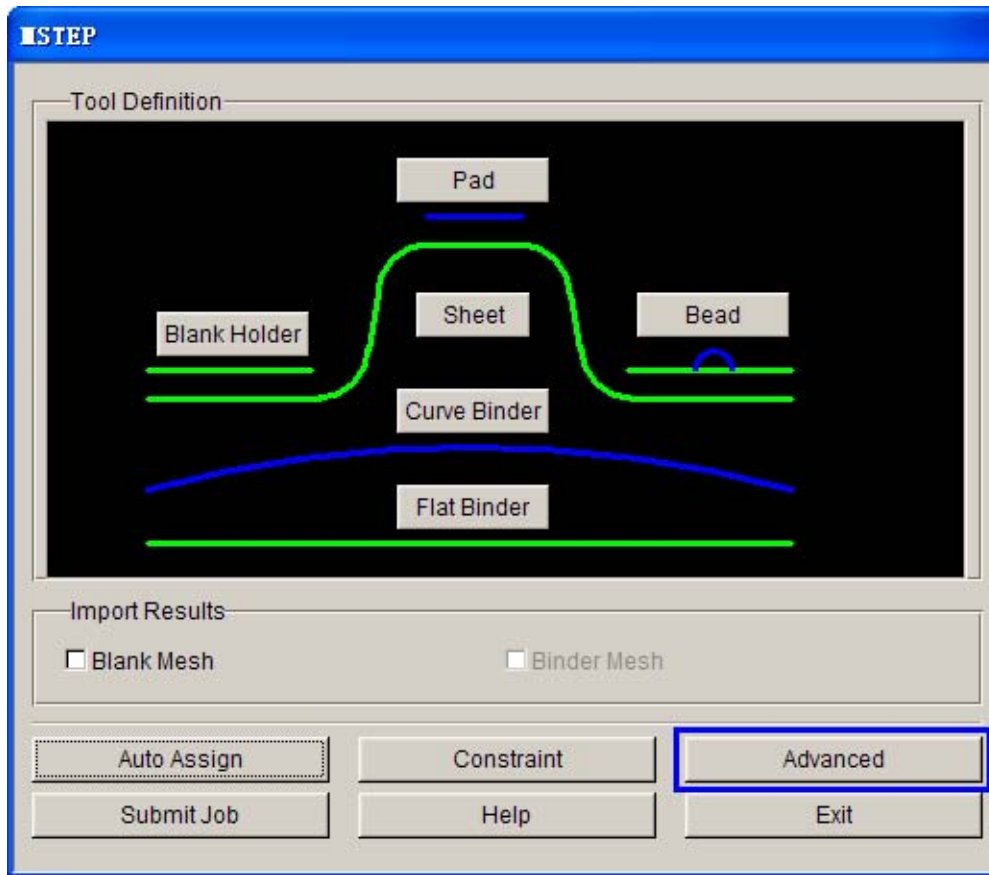
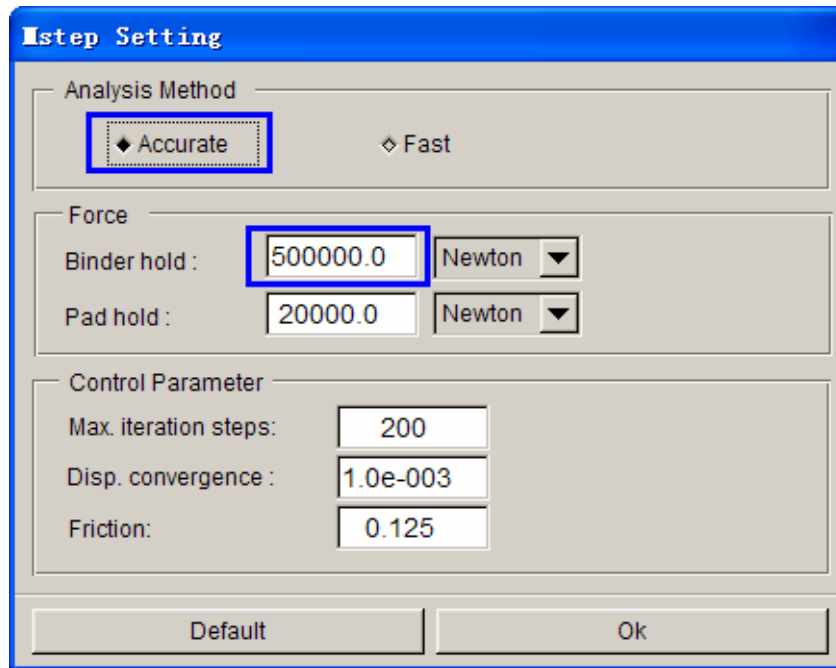

Figure 3.32: MSTEP GUI
Figure 3.33: MSTEP Setting dialog box
- 11) Select “SELECT PART” in the pop-up DEFINE TOOL dialogue window as shown figure 3.32, then pop up the Define Ring dialogue window, click “Add”. See figure 3.33.
- 1) Select “Advanced” in the MSTEP dialogue window to pop up the MSTEP SETTING dialogue window, then set the solver related parameters. See figure 3.32.
- 2) The MSTEP module provides two solution modes: Accurate and Fast. Wherein the Accurate mode considers the impacts of process parameters in solution, such as the binder hold force, pad hold force and draw bead etc, and considers the impact of material parameters and plasticity deformation factors accurately, which is perfectly consist with the real formability process. The Fast mode ignores the impact of above parameters in solution, in order to speed up the computation, which correspond the elasticity unfold mode. In this example, the impact of blank holder tool should be considered, so select the Accurate mode, and set the binder hold force at 500,000 Newton and accept other default values, the result is shown in the following figure 3.33.